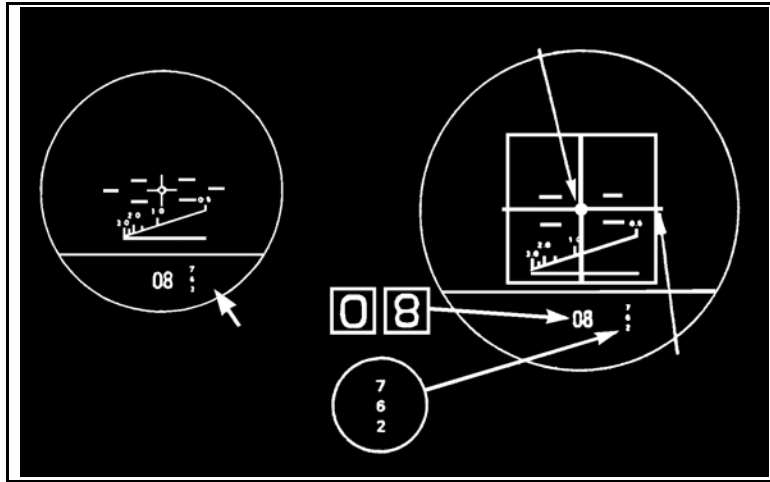

Figure 2. 7.62 reticle.
c. Look through the gunner's eyepiece and elevate and traverse in the power mode to align the reticle on the center of the target (Figure 2).